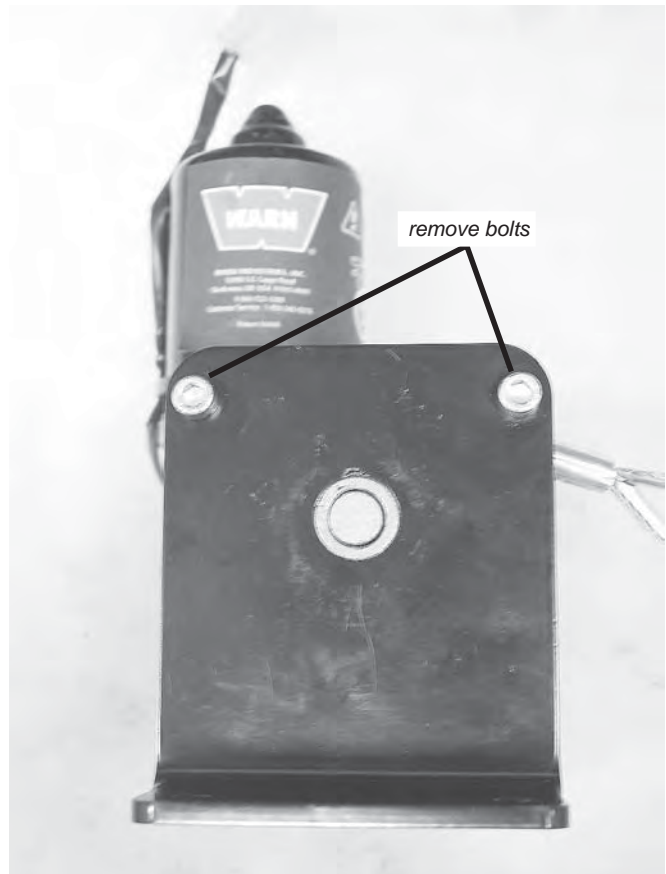

Figure 1 Remove Socket Head Bolts
1. Place the actuator on its side with the motor side down. Remove the two socket head bolts shown in figure 1.